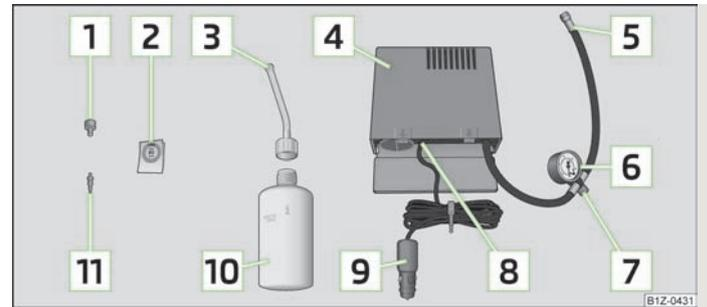

Fig. 155 Components of the breakdown kit
- Stick the sticker  » Fig. 155 on the dash panel in view of the driver.
- Forcefully shake the tyre inflator bottle  » Fig. 155 several times.
- Screw the tyre inflation hose  » Fig. 155 of the air compressor firmly onto the tyre valve.